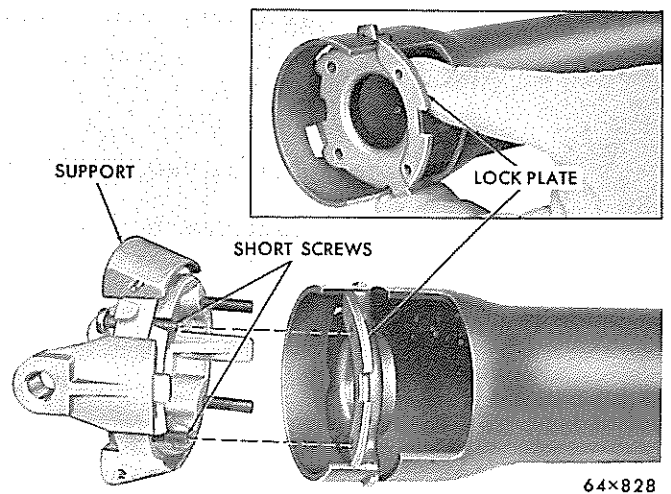

Fig. 28 - Removing or Installing the Actuator Housing Support and Lock Plate
(15) Remove the actuator housing support screws (4) then lift the support from the jacket tube. Note the position of the screws. The two short screws are installed in the raised section of the lock plate (Fig. 28).
(16) If necessary to remove the lock plate, release the plate from the notches in the jacket tube, tilt the raised section and remove.
- (1) Install the actuator housing lock plate (if removed) by indexing with the openings in the jacket tube and snapping in place (Fig. 28).
- (2) Position the actuator housing support in the jacket tube and aligning the holes in the actuator housing with the holes in the lock plate noting that the two short screws are installed in the raised section of the lock plate (Fig. 28). Tighten the four screws securely.